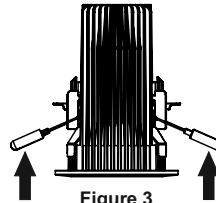
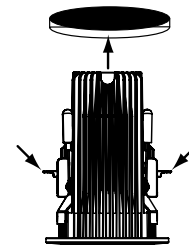
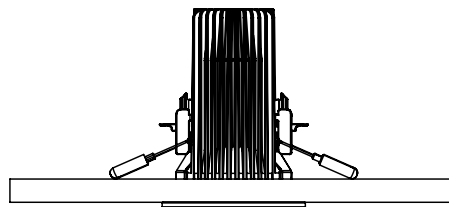

Figure 3
Figure 4
Figure 5
Step 4. Load the spring clips on the module into the "up" position by depressing the clips, as illustrated in Figure 3. The clips will lock into place when vertical, as shown in Figure 4.
Step 5. Insert the module into the ceiling (Fig. 4). Each clip has a trigger (indicated by arrows on the left and right in Figure 4), and will depress as the module is being inserted into the ceiling. Upon depression of the triggers, the clips will be released and press against the ceiling, holding the module in place (Fig. 5).